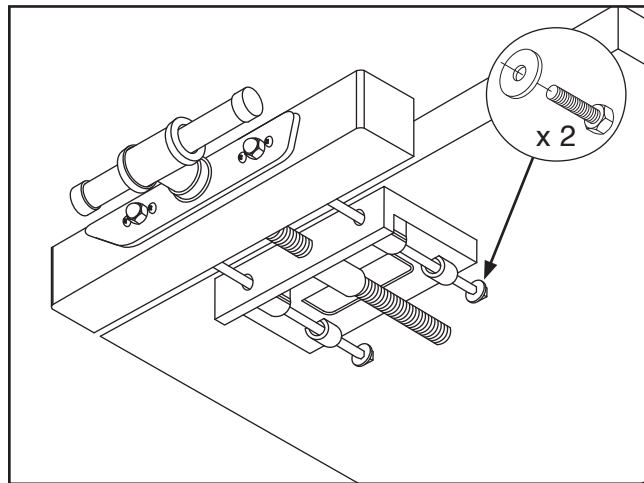

Figure 14. Installing vise assembly.
14. Thread vise through leadscrew plate and tighten until vise head makes contact with workbench (see **Figure 14**).
15. Install (2) M8-1.25 x 15 hex bolts and (2) 8mm fender washers in back of vise rods (see **Figure 14**).